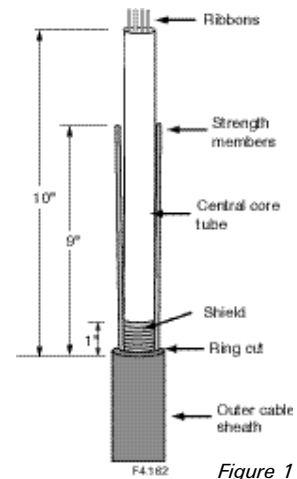

Figure 1
2. If metal or dielectric dual strength members (e.g., LXE) or multiple metallic strength members (eg., crossply) are present, expose each strength member and cut it off 9" from the ring cut. (Figure 1) If flexible dielectric strength members are present, cut them off at the ring cut.
3. If metal shield is present, remove all but 1" of the metal shield. (Figure 1) Pry open a 1" tab in the exposed metal shield where the shield overlaps. Crimp the bond clamp onto the edge of the shield.
5. Carefully cut the central core tube 10" from the sheath ring cut. (Figure 1)